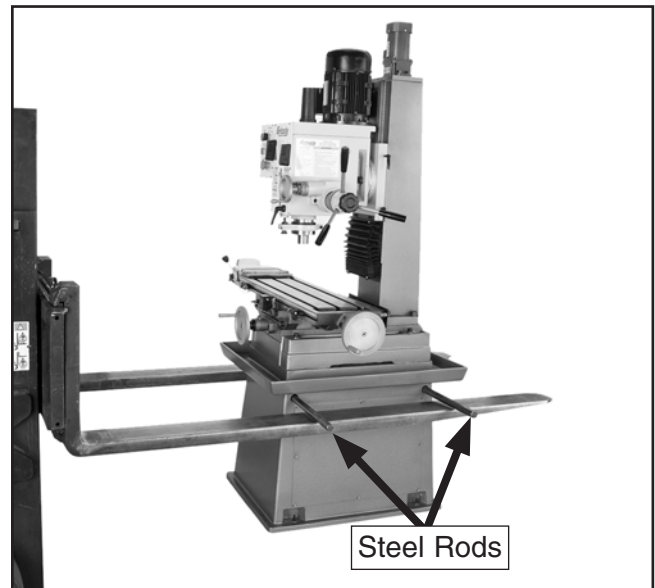

Figure 5. Lifting setup.
4. Insert steel rods into holes in stand, as shown in **Figure 5**.